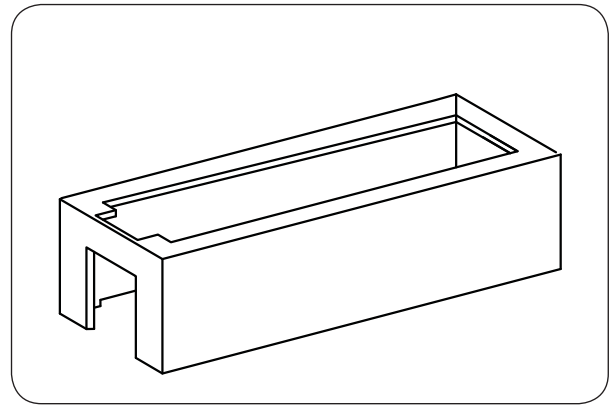

Fig. 15-1 Locate hearth
1. **CAREFULLY** place the hearth piece in an appropriate location (refer back to the LOCATION section if needed). See Fig. 15-1.